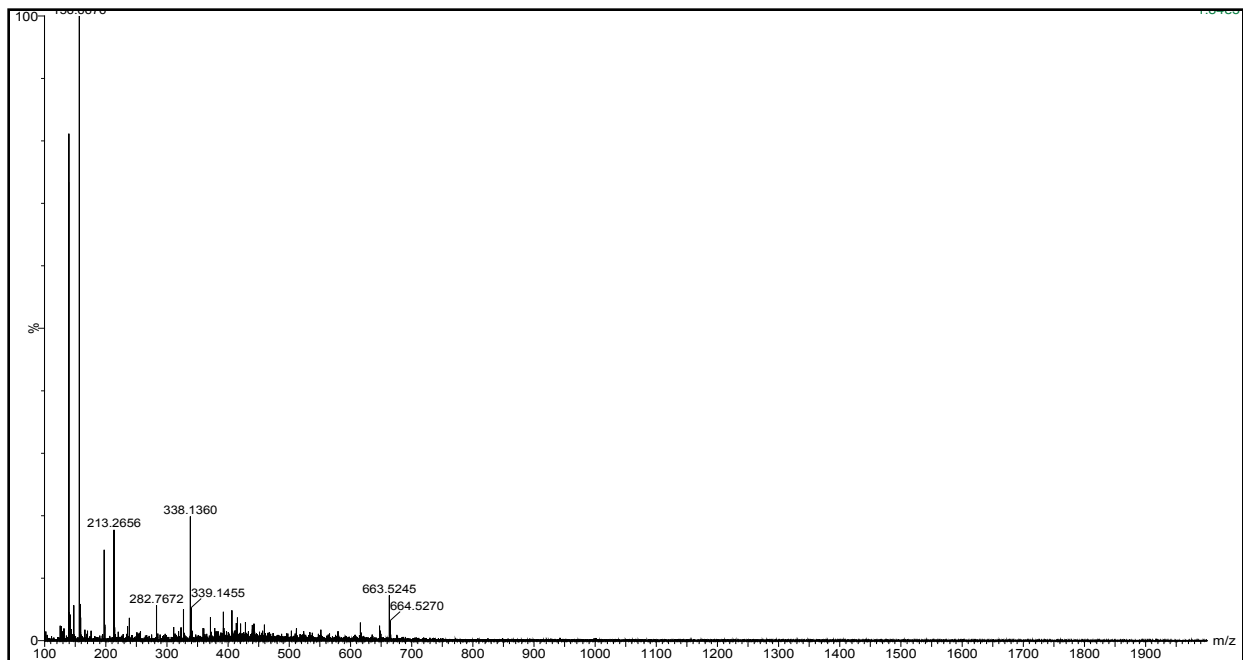

Figure 2) Representative spectrum of a blank solvent (acetonitrile: water 50:50 (v:v) with 0.1% formic acid)
4. Allow the spray to stabilize. You will see some small masses (156.6676 and 213.2656- corresponding to the spray mix solvent) in the spectrum. Check for response, ideally a response of about 150 to 200 ions/scan is good. Record the spectrum – for reference (Figure 2)
3. Allow the spray to stabilize. You will see a charge series (typical of a protein-Figure2) in the spectrum. Check for response, ideally a response of about 150 to 200 ions/scan is good(excluding m/z 616.5276- corresponding to Heam)